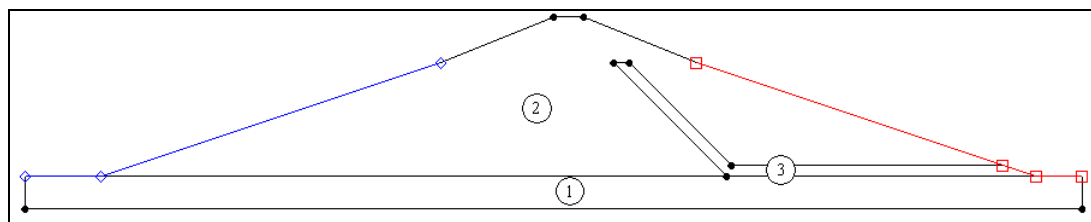

Figure 9. Polygons and their Material IDs.
2. Double-click on the embankment which is zone 2 in Figure 9 below.